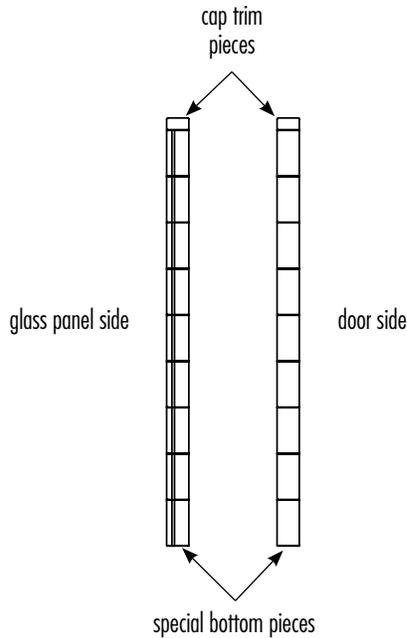
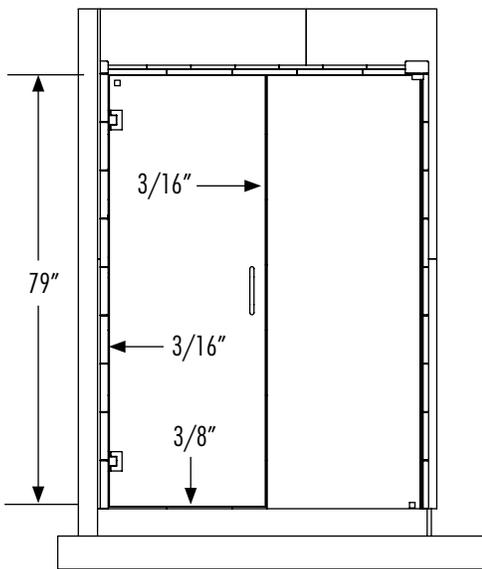

figure 26
figure 33
The threshold trim pieces complete the look of your new shower system. If you purchased a Basic or Premium package which do not come with glass, your threshold pieces will be solid with out a channel. If you purchased a Supreme or Grand package which do come with glass, you will have 9 pieces with a channel and 9 with out a channel. The trim pieces with channels go on the glass panel side and the pieces with out channels go on the door side (fig. 26). No matter what package you ordered there are 2 smaller cap trim pieces and 2 special bottom pieces.
1. Locate all the trim pieces and align them on the floor (fig. 26).
1. Dry fit the door and check the fit. Use shims to adjust the door height (fig. 26). The top of the door should be 79" from the top of the shower pan threshold and level with the side glass panel. The door to panel gap should be 3/16" and the door to shower pan threshold gap should be 3/8". Make sure the glass panel and door are level across the top edge (fig. 33).